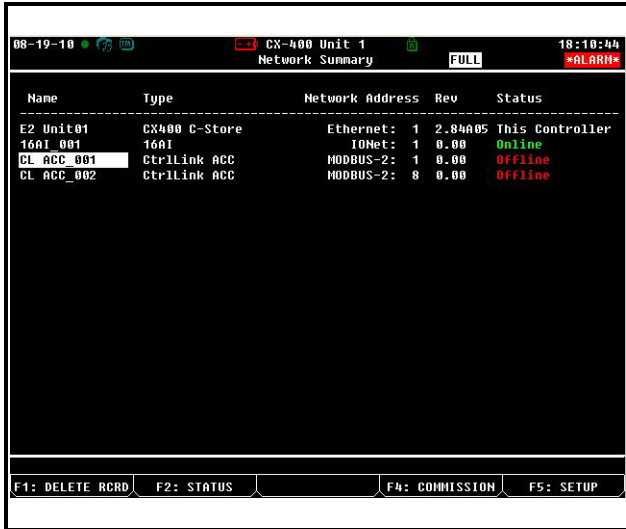

Figure 7-8 - Network Summary Screen
- When finished, press  to return to the Network Setup menu, then press **1** - **Network Summary** (Figure 7-8). Locate the Control Link ACCs you set up, and look at each device's status in the **Status**